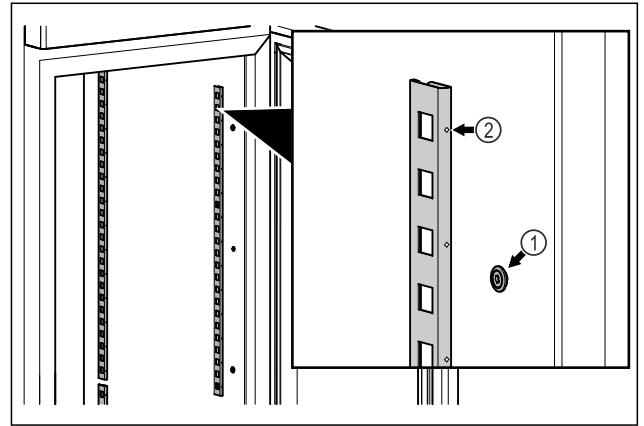

Fig. 54 Example illustration
- ▶ Hook the snap strips into the suspension Fig. 54 (1). Mark Fig. 54 (2) must point forward.